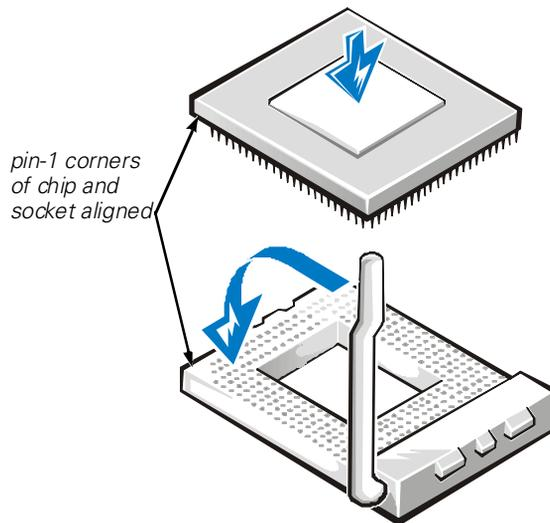

Figure 8-12. Installing the Microprocessor Chip
9. Install the microprocessor chip in the socket (see Figure 8-12).
10. Place the new heat sink on top of the microprocessor chip (see Figure 8-12).